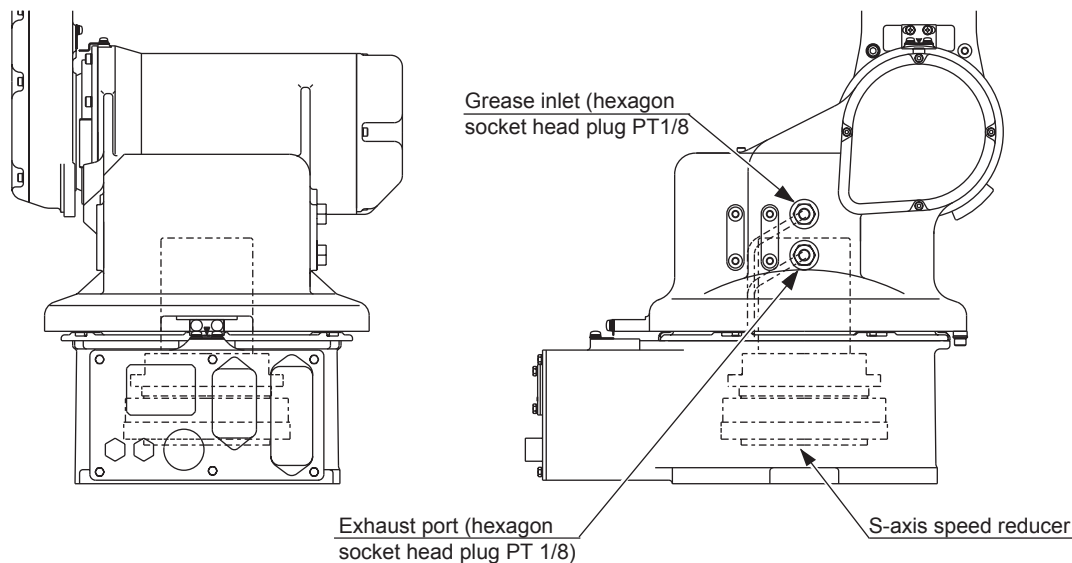

Fig. 23 S-Axis Speed Reducer Diagram
■ Grease Replenishment (Refer to " Fig. 23 S-Axis Speed Reducer Diagram ".)